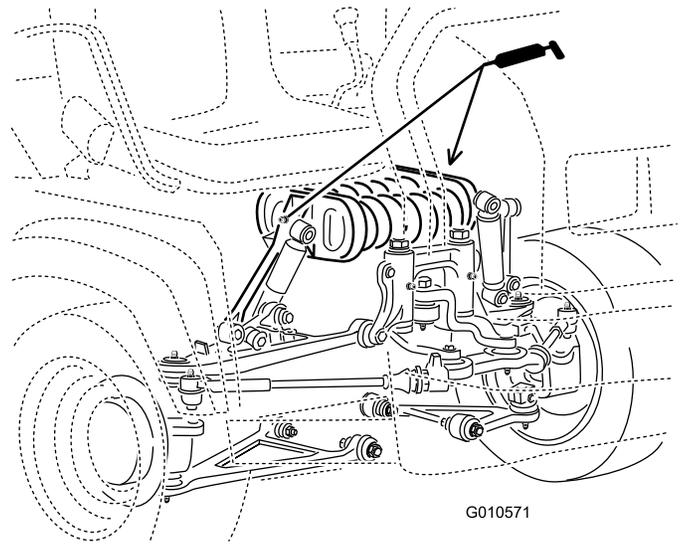

Figure 41
- Spring tower (2) (Figure 41)